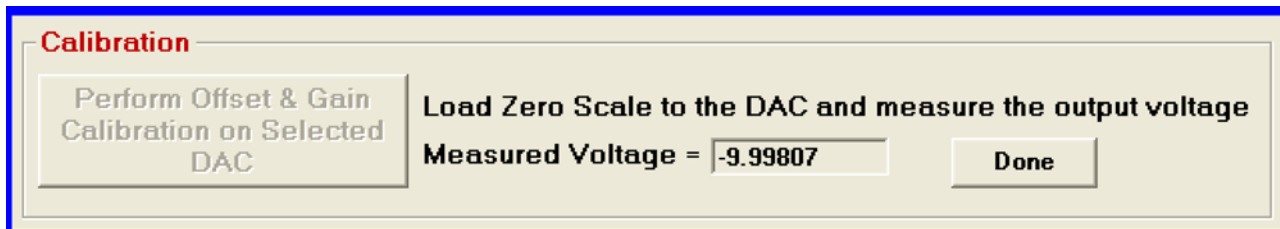

Figure 4.
3. In the **Read/Write Registers** section, load 0 V to the DAC and measure the output voltage of the DAC. Enter the measured value in the **Calibration** section. Click the **Done** button. The offset error should now have been reduced and the **Calibration** section displays changes as shown in Figure 4.